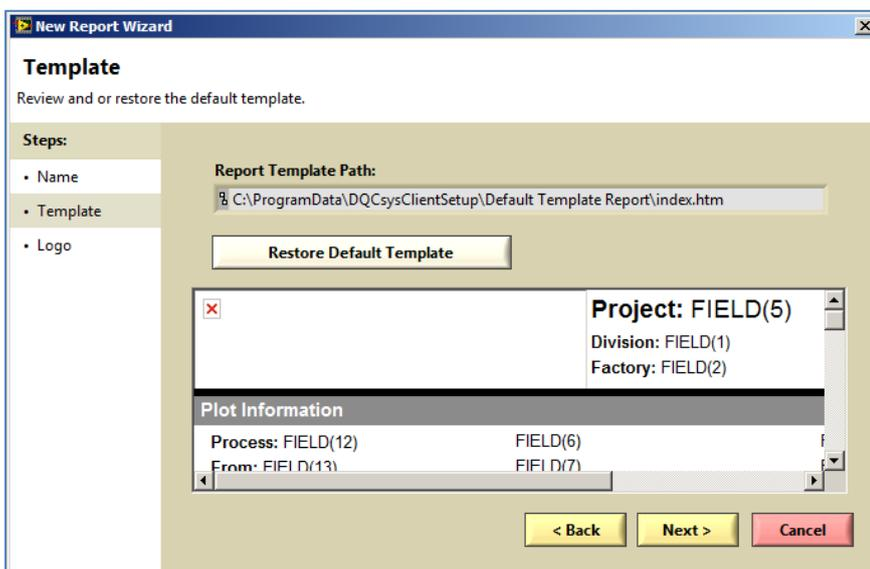

Figure 4.4: The **Template** Page on the **New Report Wizard**
4. Click **Next >** to proceed to the **Template** page; see Figure 4.4.